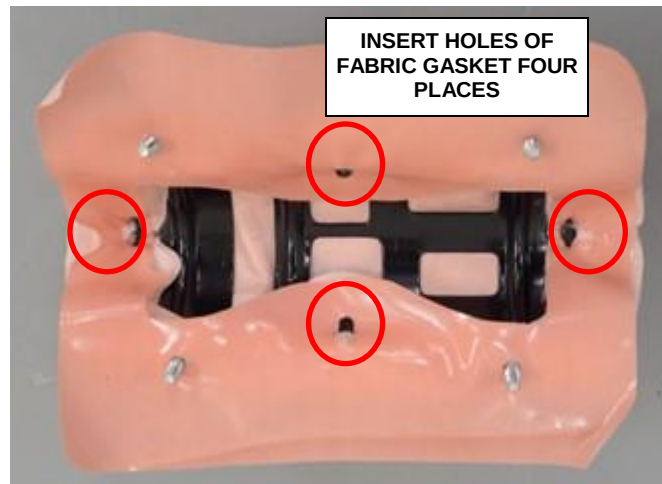

Figure 120 – Fabric Gasket
- c. Disconnect the single yellow wire inflator connector from the end of the inflator using pliers (Figure 120).
- d. Remove the yellow three way inline connector from the housing bracket (Figure 120).